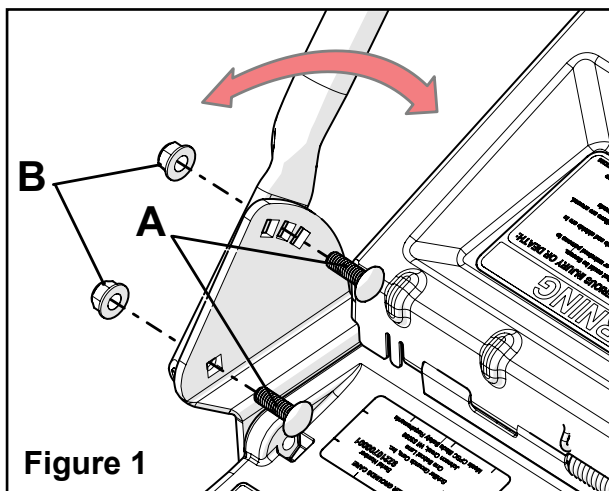

Figure 1
2. Rotate the handle and attach to the lower handle mounting brackets with four 5/16-18 x 1 carriage bolts **A** and four 5/16-18 nylon flange lock nuts **B**. Choose the most comfortable of the three handle height positions. Tighten the nuts securely. Secure the control cables along the left hand handle tube with the wire ties. **Figure 1**